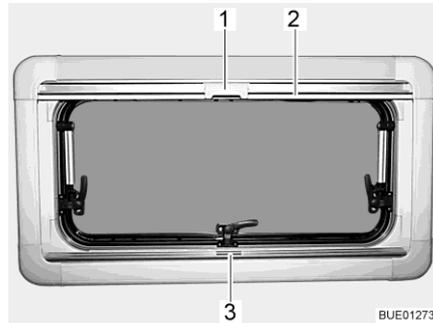
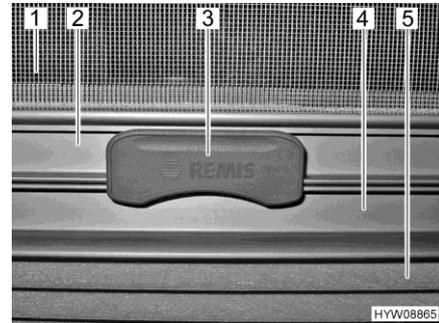

Fig. 15 Hinged window
Fig. 16 Catch
**Roman shade** The Roman shade (Fig. 16,5) is located in the lower blind box.
- Seize the Roman shade by the centre of the holding bar (Fig. 15,3 and Fig. 16,4), pull it from the bottom to the top and release it at the desired height. The Roman shade will stay at this height.
**Insect screen** The insect screen (Fig. 16,1) is located in the upper blind box.
- Pull the insect screen down by the holding bar (Fig. 15,2 and Fig. 16,2), until it touches the holding bar of the Roman shade (Fig. 16,4).
- Clip the catch (Fig. 15,1 and Fig. 16,3) on the insect screen into the holding bar of the Roman shade. When the catch is locked, the Roman shade and the insect screen can be adjusted together.
- Push the catch (Fig. 16,3) on the insect screen upward.
- Move the insect screen back slowly on the holding bar (Fig. 15,2).